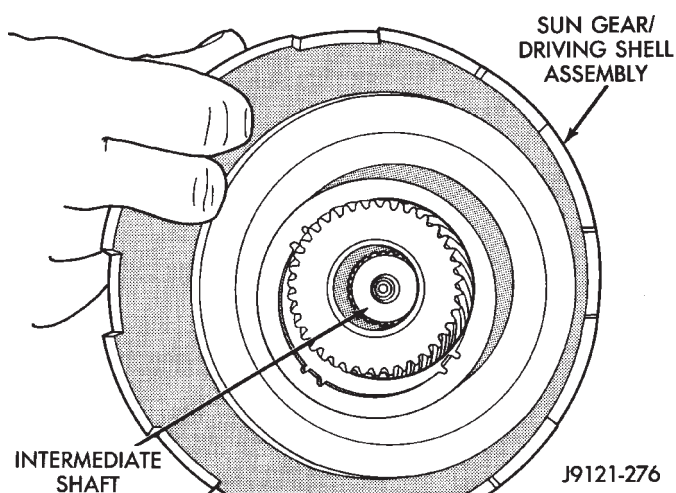

Fig. 78 Installing Assembled Sun Gear And Driving Shell On Intermediate Shaft
(13) Install assembled driving shell and sun gear on intermediate shaft (Fig. 78).